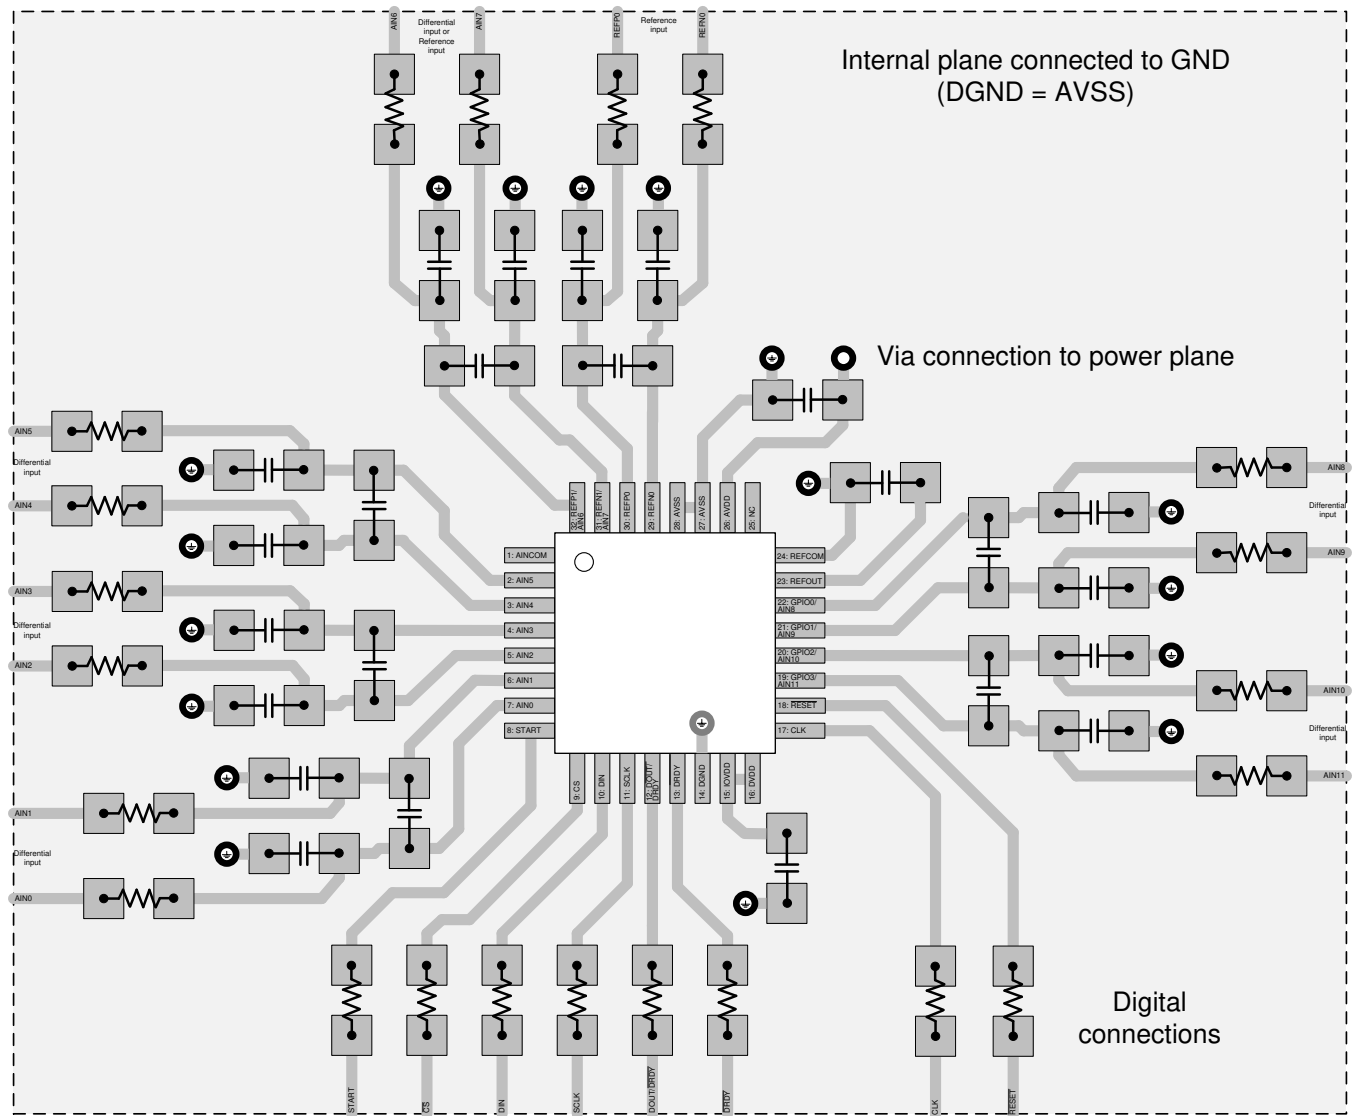

**Figure 103. System Component Placement**
Employing best design practices is recommended when laying out a printed-circuit board (PCB) for both analog and digital components. This recommendation generally means that the layout separates analog components [such as ADCs, amplifiers, references, digital-to-analog converters (DACs), and analog MUXs] from digital components [such as microcontrollers, complex programmable logic devices (CPLDs), field-programmable gate arrays (FPGAs), radio frequency (RF) transceivers, universal serial bus (USB) transceivers, and switching regulators]. Figure 103 shows an example of good component placement. Although Figure 103 provides a good example of component placement, the best placement for each application is unique to the geometries, components, and PCB fabrication capabilities employed. That is, there is no single layout that is perfect for every design and careful consideration must always be used when designing with any analog component.